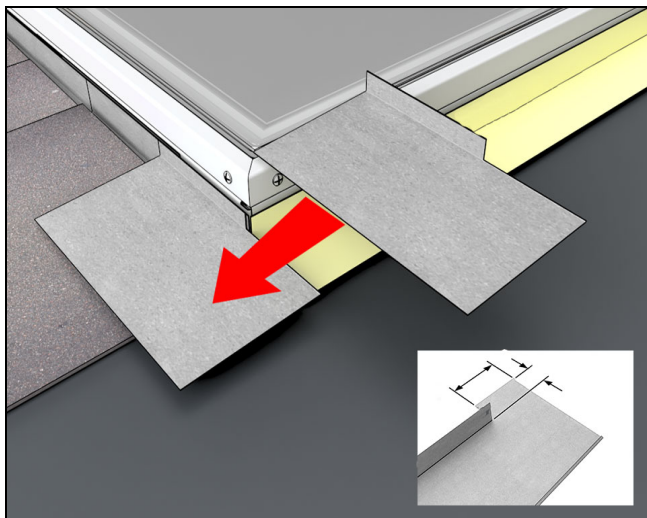

Figure 20
17. Last course is extended beyond the head jamb 2"-4". Note: vertical leg removed flush to head jamb. See Figure 20.